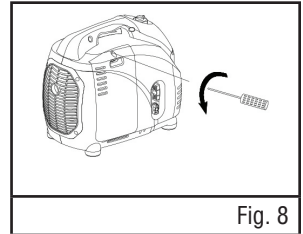

Fig. 8
1. With a screwdriver, remove the side panel to expose the oil filler. See figure 8